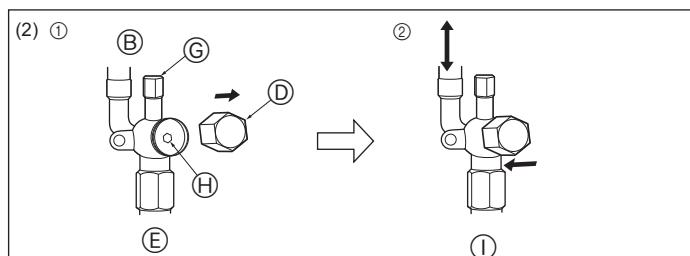

Fig. 4-7
- ① Remove the cap, pull the handle toward you and rotate 1/4 turn in a counterclockwise direction to open.
- ② Make sure that the stop valve is open completely, push in the handle and rotate the cap back to its original position.
- (2) Liquid side (Fig. 4-7)
- ① Remove the cap and turn the valve rod counterclockwise as far as it will go with the use of a 4 mm [5/32 inch] hexagonal wrench. Stop turning when it hits the stopper.